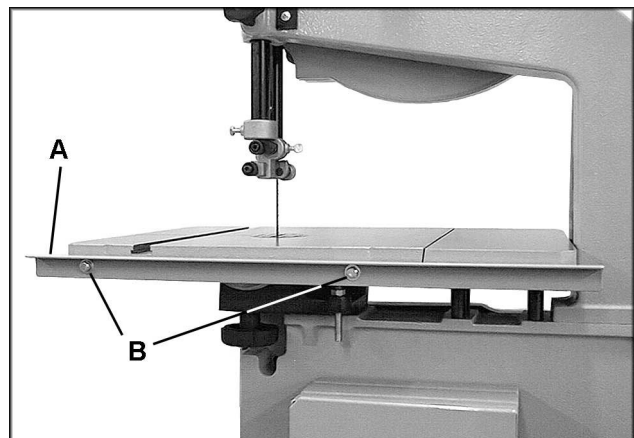
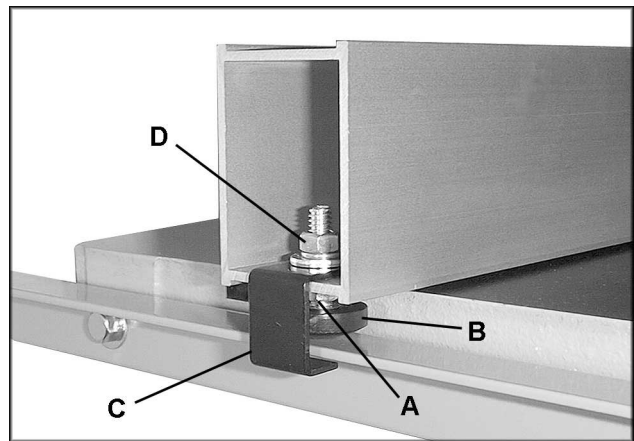

Fig. 13
Fig. 17
2. Mount rear rail (A, Fig. 13) to the band saw table using two M6 x 20 hex cap screws, two 1/4" lock washers and two 1/4" flat washers (B, Fig. 13). Do not tighten yet.
6. Thread a hex nut (A, Fig. 17) onto the sliding pad (B, Fig. 17) and insert through the fence and rear hook (C, Fig. 17). Secure in place using a hex nut, lock washer and flat washer (D, Fig. 17). The hook (C, Fig. 17) should be adjusted so that it overlaps the rear rail by approximately 1/8".
7. When the fence assembly is placed on the table, the rear hook (C, Fig. 17) should engage the rear rail.
10. Also adjust the "play" of the rear rail (B, Fig. 13) until the fence/table gap is equal. The rails and rip fence should now be at the proper height in relation to the table. Of course, the rear hook (Fig. 17) can be adjusted further to help make the fence/table gap equal.